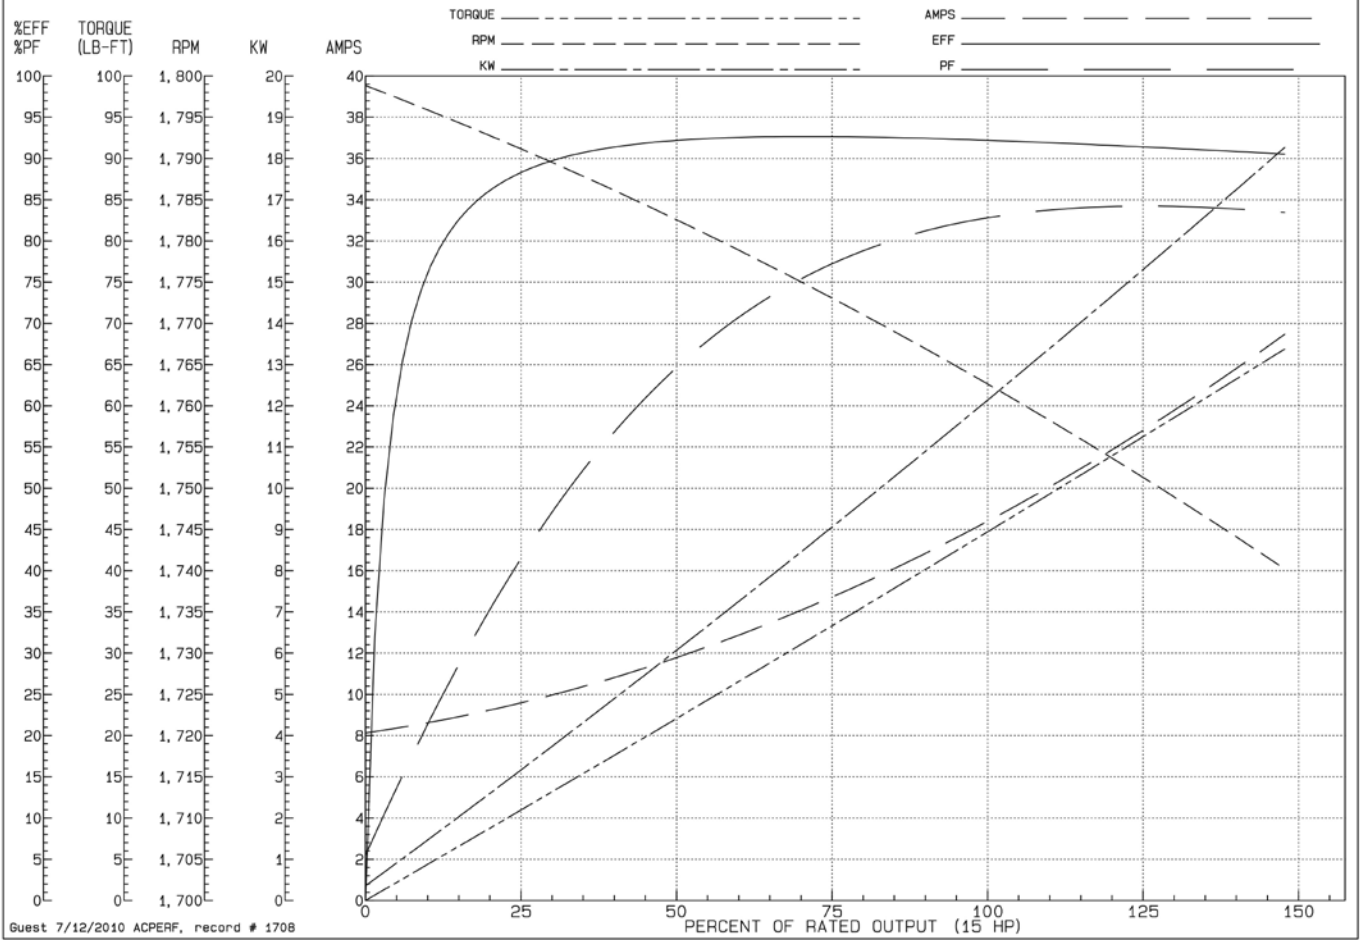

Figure 1 Typical — not guaranteed — motor performance data plots.
nature of AC power, this borrowed power is subsequently returned to the power system when the AC cycle reverses. This borrowing and returning occurs on a continuous basis. Power factor then becomes a measurement of the amount of real power that is used, divided by the total amount of power, both borrowed and used. Values for power factor will range from zero to 1.0. If all the power is borrowed and returned with none being used, the power factor would be zero. If on the other hand, all of the power drawn from the power line is utilized and none is returned, the power factor becomes 1.0. In the case of electric heating elements, incandescent light bulbs, etc., the power factor is 1.0. In the case of electric motors, the power factor is variable and changes with the amount of load that is applied to the motor. Thus, a motor running on a work bench, with no load applied to the shaft, will have a low power factor (perhaps .1 or 10%), and a motor running at full load, connected to a pump or a fan might have a relatively high power factor (perhaps .88 or 88%). Between the no load point and the full load point, the power factor increases steadily with the horsepower loading that is applied to the motor. These trends can be seen on the typical motor performance data plots which are shown (Fig. 1).
**Amperes.** Now, let's discuss amperes. Amperes are an indication of the flow of electric current into the motor. This flow includes both the borrowed as well as the used power. At low load levels, the borrowed power is a high percentage of the total power. As the load increases on the motor, the borrowed power becomes less and less of a factor and the used power becomes greater. Thus, there is an increase in the power factor as the load on the motor increases. As the load continues to increase beyond 50% of the rating of the motor, the amperage starts to increase in a nearly straight line relationship (Fig. 1).
Figure 1 shows significant items that have been discussed as plots of efficiency, power factor and watts, as they relate to horsepower. The most significant factor of all these is the watts requirement of the motor for the various load levels because it is the watts that will determine the operating cost of the motor, not the amperage.